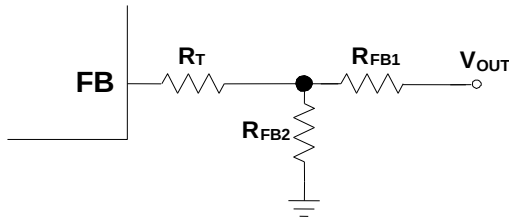

Figure 4: T-Type Feedback Network
The external resistor divider connected to FB sets the output voltage (see Figure 4). The feedback resistor (R_{FB1}) also sets the feedback loop bandwidth with the internal compensation capacitor. Choose R_{FB1} to be around 40kΩ when V_{OUT} ≥ 1V. R_{FB2} can then be calculated with Equation (1):
The T-type network is highly recommended when V_{OUT} is low (see Figure 4).